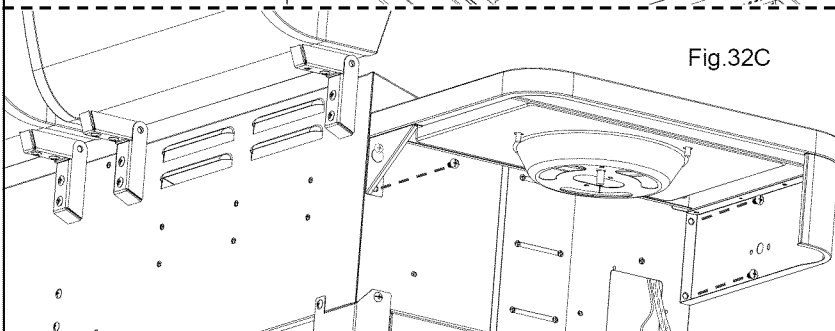

Fig.32C
Attach the Side Burner Shelf to the cabinet using (3) M6x12 bolts as shown as Fig. 32C. Then Tighten the bolt pre-assembled on step 32A.